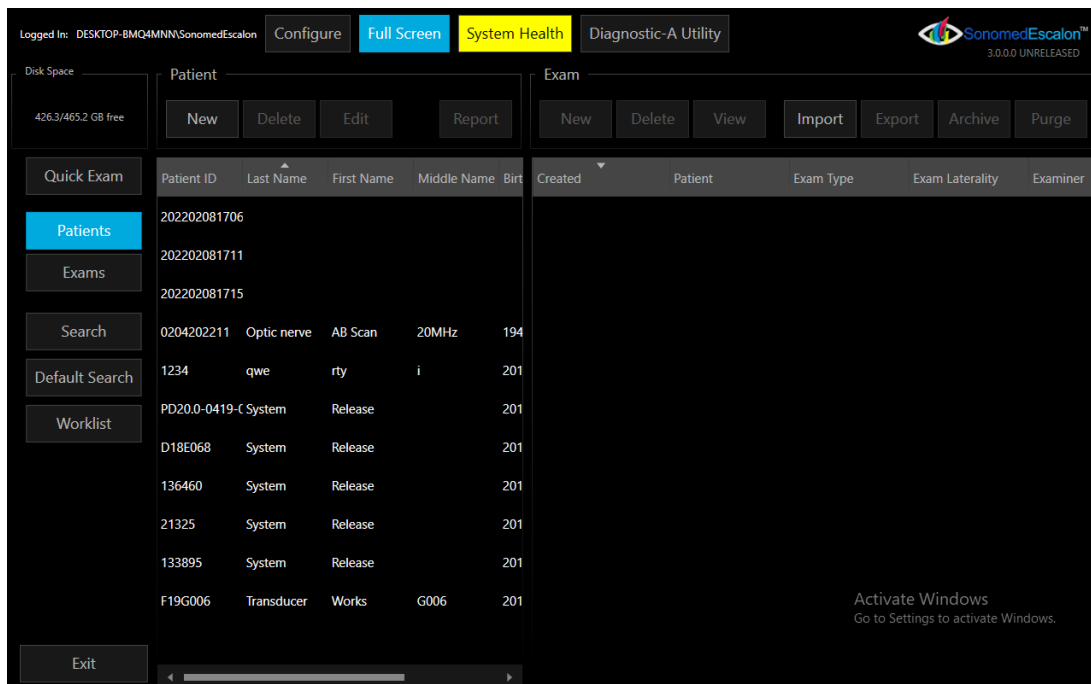

Fig. 7- Patient Database Screen
③ **Patient Database Screen:** Upon launching the application the 'Patient Database' screen (Fig. 7) will display. Here you can add a new patient or find previously performed exams.